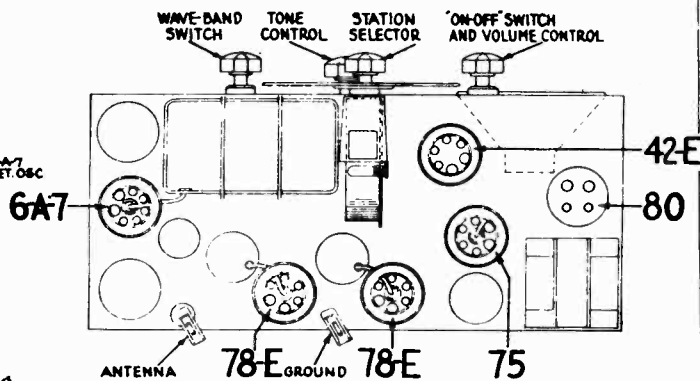

FIG. 2—Tube Sockets and Controls as seen from top of Chassis.
Set the signal generator at 460 K. C. (the intermediate frequency of Model 245) and with the receiver and signal generator turned on, the wave band switch at center and dial at 600 K. C., adjust each of the I. F. compensating condensers in turn, to give maximum response in the output of the receiver. The three pairs of I. F. compensating condensers are located one pair at the top of each of the three I. F. transformer shields. These are the three metal "cans" near the rear of the chassis. Each of the transformers has a dual compensating condenser mounted at its top, and accessible through a hole in the top of the coil shield. In the dual compensators the Primary circuit is adjusted by turning the screw; the Secondary circuit is adjusted by turning the hex-head nut. The condenser numbers, referring to Fig. 2, are ④, ⑤, ⑥, ⑦, ⑧, and ⑨.